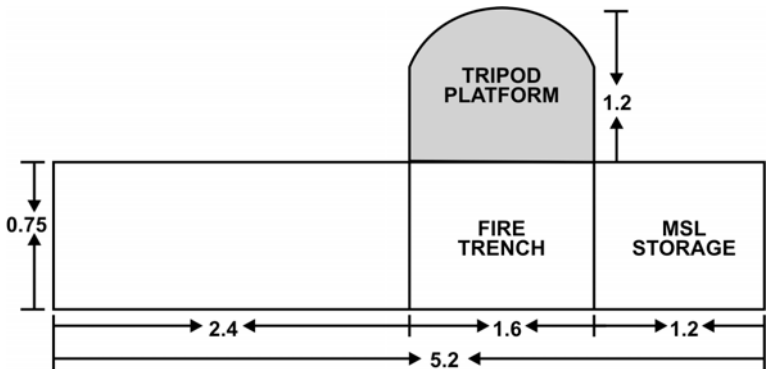

Figure 2-22: Eryx Trench Measurements
- a. **The Eryx Trench.** Eryx can be fired from virtually any type of trench in an emergency, but a properly designed trench will provide good protection for the team and their missiles, as well as make it easier for the gunner to engage and track targets. The Eryx trench is based on the two-person battle trench with the important differences being the addition of a missile storage bay on the right-hand end of the trench and a tripod platform dug down in front of the trench instead of an elbow rest. Trench dimensions are shown in Figure 2-22: